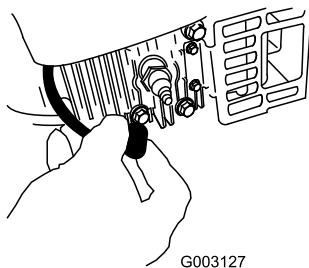

Figure 33
2. Disconnect the spark-plug wire from the spark plug (Figure 33) before performing any maintenance procedure.